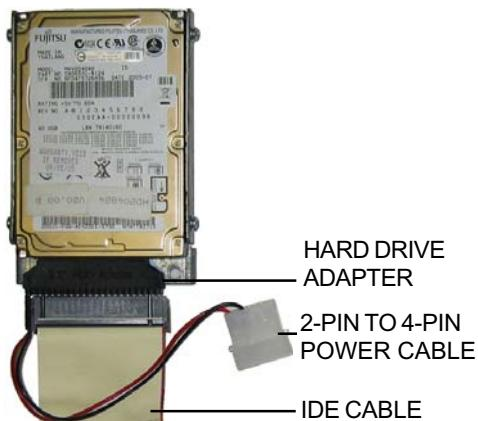
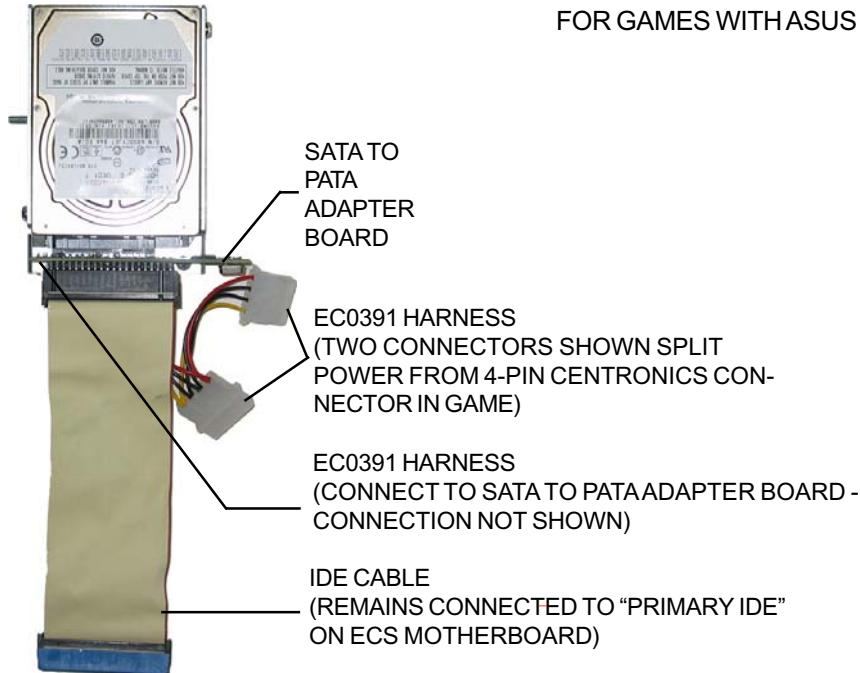
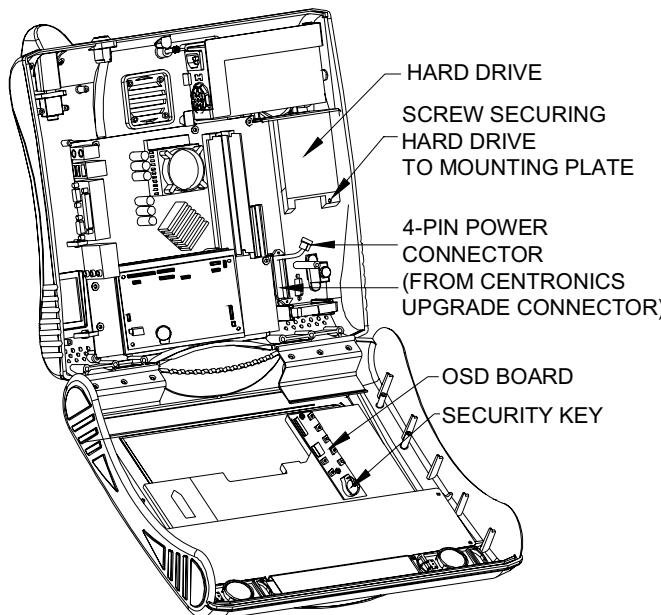
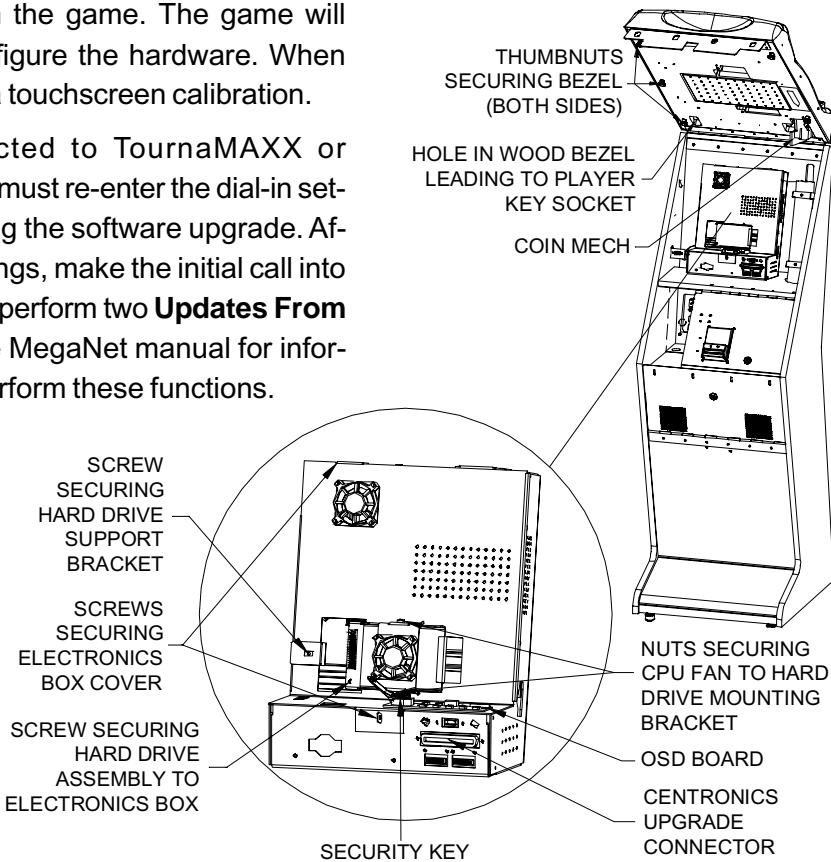

FIGURE 3 - OLD PATA HARD DRIVE ASSEMBLY
FIGURE 5 - NEW SATA HARD DRIVE ASSEMBLY FOR GAMES WITH ECS MOTHERBOARDS
FIGURE 6 - EVO, EVO WALLETTE / ENTERTAINER, AND ELITE EDGE WITH CPU SECTION OPEN
FIGURE 7 - FUSION GAME WITH DETAIL VIEW OF ELECTRONICS BOX
4. Use Figures 3 and 4 to confirm that you have a PATA hard drive in your game.
5. Disconnect the hard drive adapter (with its attached cabling) from the hard drive (Figures 3 and 6).
- 7a. **If you have an ECS motherboard:** Disconnect and remove the hard drive adapter and the 2-pin to 4-pin power cable from the IDE cable, leaving the other end of the IDE cable connected to the motherboard (see Figure 3). Continue with step 8.
- 7b. **If you have an ASUS motherboard:** Disconnect the 2-pin to 4-pin power cable and the IDE cable and remove them both from the game (they will not be reused). Connect one end of the provided SATA power cable to this now free 4-pin power connector in the game (see Figures 3 and 4).
8. Remove the screw securing the hard drive mounting bracket to its mounting plate (see Figure 6). Remove the hard drive from its mounting plate by sliding the assembly down and off the bracket.
- 10a. **ECS motherboards ONLY:** Referring to Figure 5, connect the mating connector on the supplied EC0391 harness to the provided SATA to PATA adapter board. Connect the free end of the IDE cable inside the game to the SATA to PATA adapter board. Then, connect the provided SATA to PATA adapter board to the hard drive.
Locate the 4-pin connection from the centronics upgrade connector inside the game (see Figure 6). Disconnect this 4-pin connection and connect each of the mating connectors on the EC0391 harness to these two 4-pin connectors (see Figure 5).
12. Locate the security key (the button-shaped disc with the handle) on the OSD board (see Figure 6). Remove the existing security key from the OSD board by sliding it out of place. Slide the new security key into place.
6. Remove the screw on the hard drive support bracket (this bracket and screw will not be reused). Then, disconnect the hard drive adapter (with its attached cabling) from the hard drive (see Figure 3). Remove the screw securing the hard drive assembly to the electronics box (see Figure 7) and remove the hard drive assembly. Route the hard drive cabling into the electronics box through the access hole to the left of the now-absent hard drive.
7. To remove the electronics box cover, disconnect the 2 or 3 fan connections on the face of the electronics box. Also, disconnect the 2 OSD board connections and route the wires back into the electronics box through the access hole to the right of the hard drive (see Figure 7). Remove the 2 screws securing the electronics box cover and carefully remove the cover (see Figure 7).
- 9a. **If you have an ECS motherboard:** Disconnect and remove the hard drive adapter and the 2-pin to 4-pin power cable from the IDE cable, leaving the other end of the IDE cable connected to the motherboard (see Figure 3). Continue with step 10.
- 9b. **If you have an ASUS motherboard:** Disconnect the 2-pin to 4-pin power cable and the IDE cable and remove them from the game (they will not be reused). Connect one end of the provided SATA power cable to this now free 4-pin power connector in the game (see Figures 3 and 4).
10. Separate the CPU fan mounting plate from the hard drive mounting bracket by removing the 2 nuts (see Figure 7). Reattach the CPU fan mounting plate to the provided hard drive assembly with these 2 nuts (see Figure 7).
- 12a. **ECS motherboards ONLY:** Locate the 4-pin connection coming from the centronics upgrade connector inside the electronics box (see Figure 7). Disconnect this 4-pin connection and connect each of the mating connectors on the EC0391 harness to the these two 4-pin connectors (see Figure 5). Hold the electronics box cover up to the electronics box and route the free end of the EC0391 harness, and the free end of the IDE cable out through the access hole in the electronics box cover (located to the left of the hard drive). Then, route the 2 OSD board connectors through the access hole to the right of the hard drive.
- ECS motherboards ONLY:** Referring to Figure 5, connect the mating connector on the supplied EC0391 harness to the provided SATA to PATA adapter board. Connect the free end of the
15. Locate the security key (the button-shaped disc with the handle) on the OSD board (see Figure 7). Remove the existing security key from the OSD board by sliding it out of place, and replace it with the supplied security key.